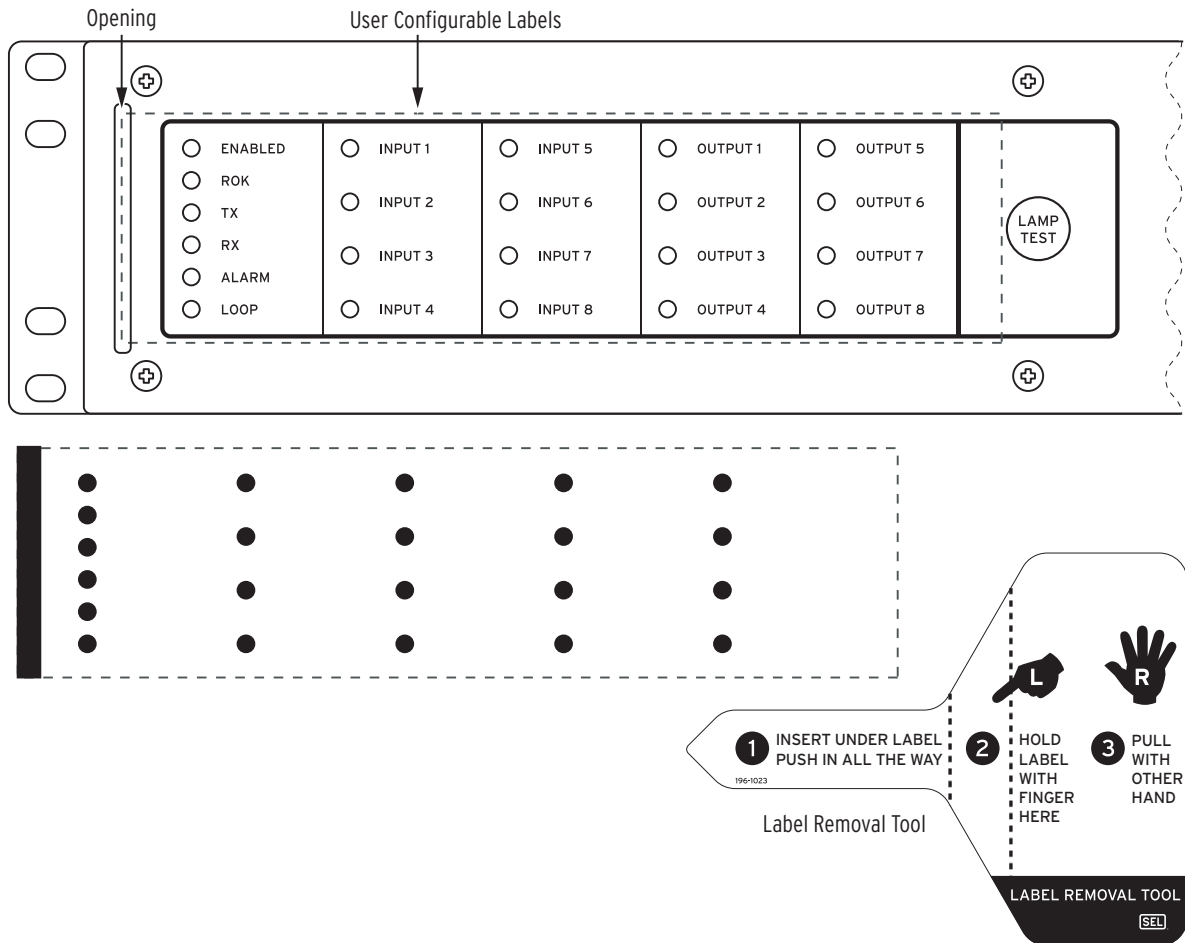

Figure 19 Blank Slide-In Label Set and Label Removal Tool
The blank slide-in label set, shown in *Figure 19*, is included with the SEL-2507.
Use the label removal tool (shown in *Figure 19*) to remove labels from the front-panel pockets.
- Step 1. Slide the tip of the tool under the label at the pocket opening (see *Figure 19* for example opening locations).